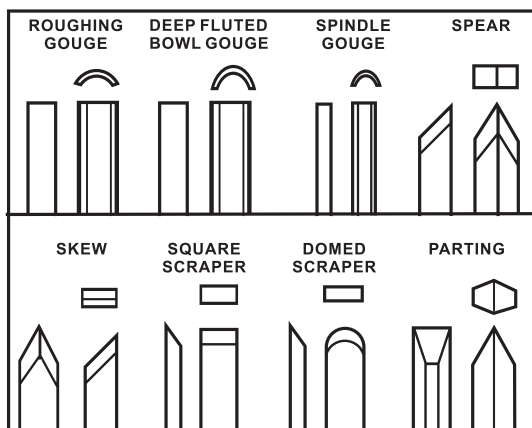

Fig 10
**Roughing Gouge** -used for rapidly cut raw wood into round stock, see Figure 10.
**Deep Fluted Bowl Gouge** -used for turning bowls and plates, see Figure 10.
**Spindle Gouge** -used for turning beads, coves and other details, see Figure 10.
**Spear** -fine scraping and delicate operations, such as the forming of beads, parallel grooves and shallow vees, etc, see Figure 10.
**Skew** -used to make vees, beads, etc., see Figure 10.
**Square Scraper** -used for diameter scraping and featureless scraping, etc, see Figure 10.
**Large Domed Scraper** -used to reduce ridges on the interior of bowls, round edges of bowls, etc, see Figure 10.
**Parting Tool** -used to cut directly into the material, or to make a cut off. Also used for scraping and to set diameters, see Figure 10.